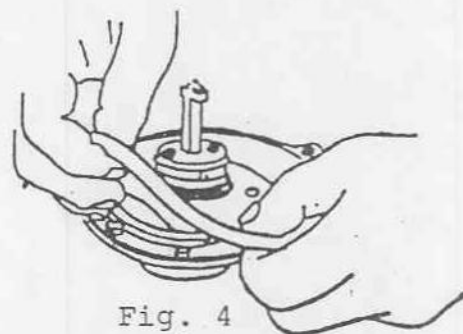

Fig. 4
The correct connection is shown on fig. 4 where the orifice is placed in one outlet after an on-off valve, while the pump is connected to the other outlet without an orifice.
This connection should never be made. The pump is connected by mistake in series with an orifice. Note that the orifice is often built into the pressure reducer which is then fitted with a flow meter (see fig. 4 for correct connection).
5. Release the diaphragm from the lower diaphragm flange no 150049. Pull out the motor valve assembly valve no. 150000012 carefully thus releasing the diaphragm support ring no. 150074 as well (fig. 4, fig. 5).